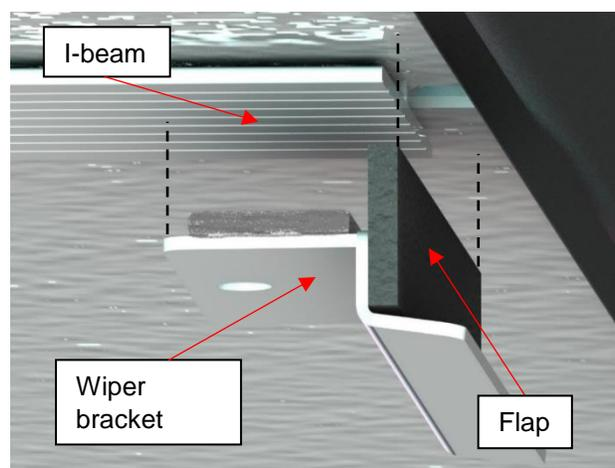

Figure 100
- 3) Under the Covana cover locate the I-beam and orient the wide flap of the wiper bracket outwards of cover. (Figure 100)